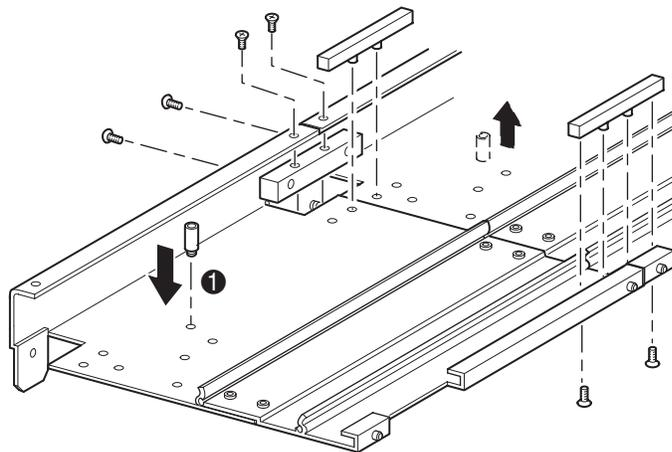

Figure 2–15: Installing tie bars
10. Remove the bottom stop standoff from the PTM base unit and then attach it to the corresponding mounting hole (❶, Figure 2–15) in the last unit of the extended PTM.